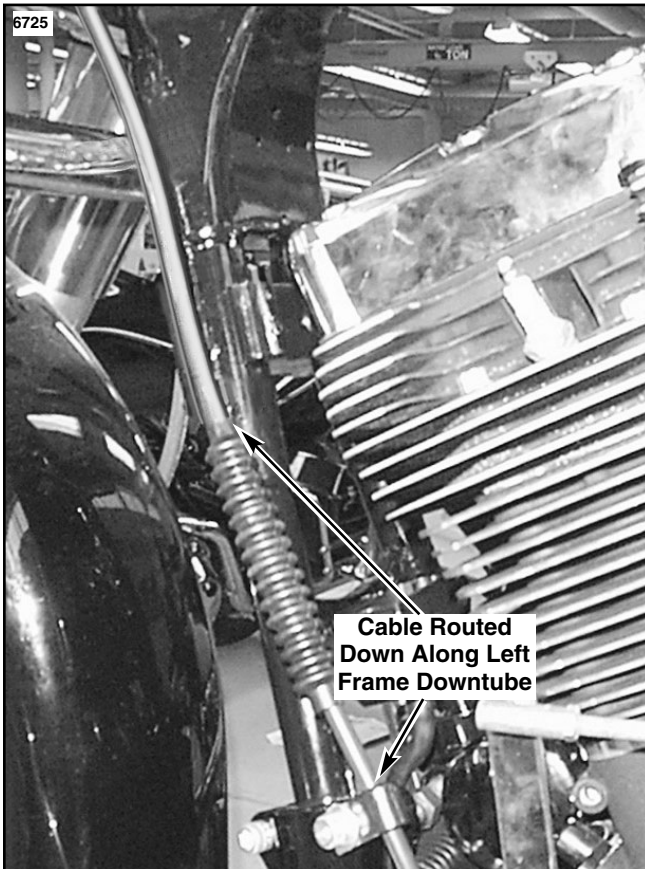

Figure 1. Route Cable Down Along Left Frame Tube (Left Side Shown)
2. See Figure 1. Continue to route clutch cable down along left frame downtube.